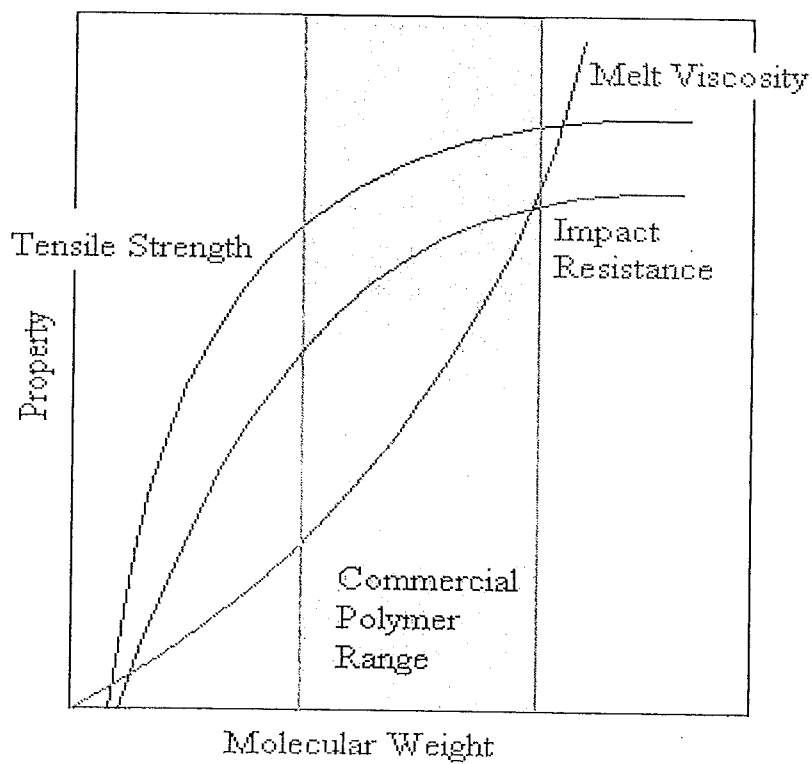

Figure 2
- [c] Discuss about the tensile strength, impact resistance and melt viscosity referring to the range of the commercial polymer in Figure 2.